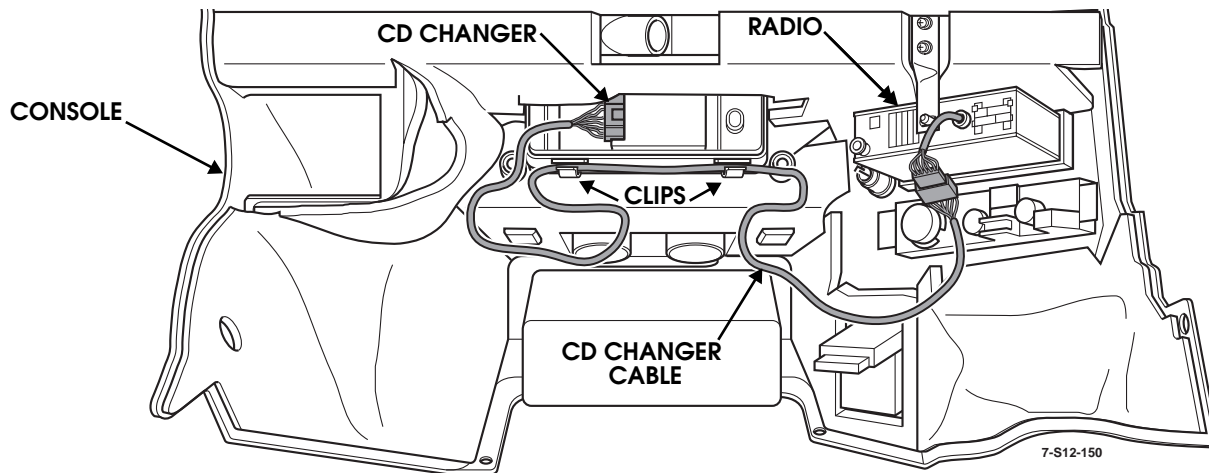

Figure 13-109: CD Changer Harness Routing
3. Pull the CD changer out far enough to remove the wire harness connector from the changer (Figure 13-109).